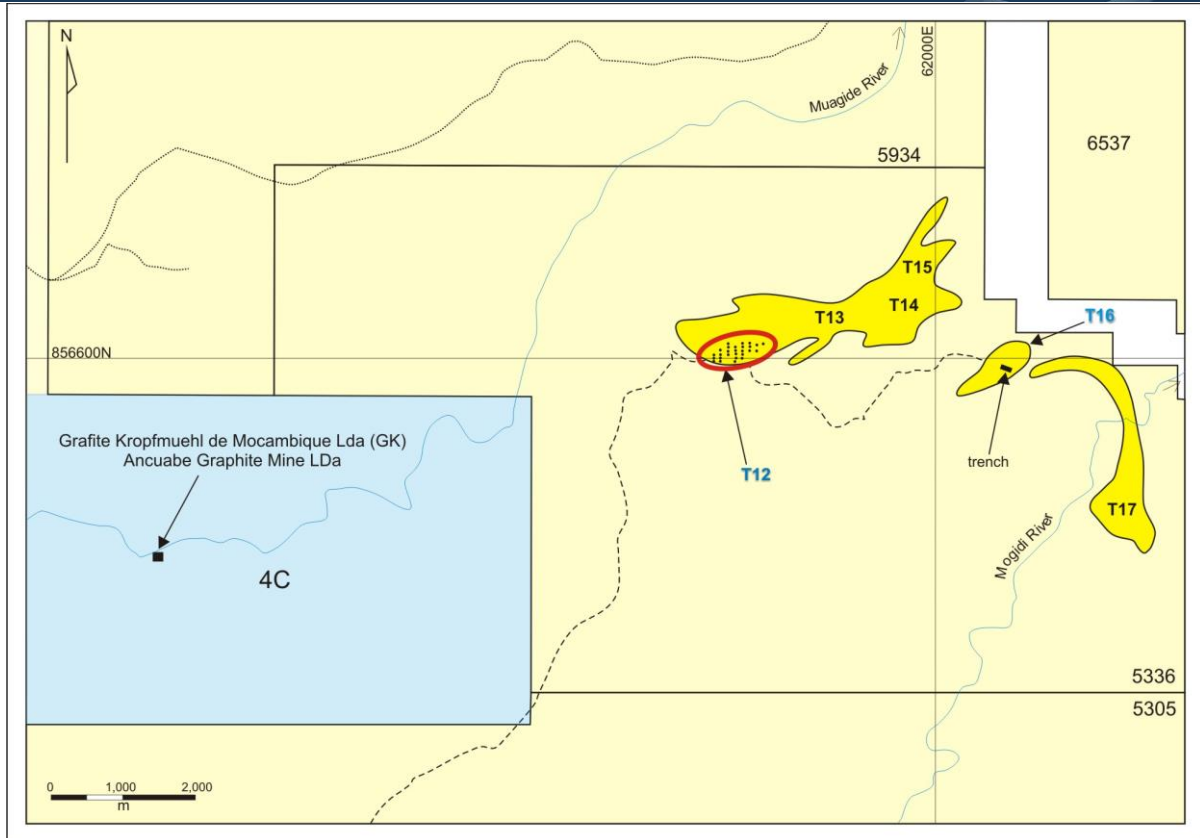

Figure 1: Ancuabe Eastern Graphite Zone - Drillhole Location Plan
Triton is pleased to announce the completion of the initial drilling program at the T12 prospect at the Ancuabe Graphite Project. These drilling results from the results from the T12 prospect at the Ancuabe Graphite Project are considered to be encouraging and of material importance. Ancuabe T12 has been tested by a total of 11 diamond and 18 reverse circulation (RC) drillholes (Figures 1 & 2). Assay results have been received for eight of these drillholes are detailed below and assay results for the remaining holes will be reported as they become available.
Drilling results received to date are considered to be encouraging for the initial exploratory program designed to test the T12 geophysical anomaly. Results have been received for eight holes in the 29 hole program which tested a 700m long section located at the western edge of a 4km long anomaly (Figure 1). A representative from independent resource consultants Jorvick Resources Pty Ltd (Perth) has completed a site visit to Ancuabe to ensure that all sampling, logging and QAQC procedures have been conducted to industry standards and to independently verify the surface expressions of graphite mineralisation.
Graphite mineralisation has been discovered at the T16 target which is located 4km due east from T12. Large flake graphite, similar to that found at T12, is exposed continuously over a horizontal width of 100m over strike length of approximately 800m. T16 is located on the T16-T17 target horizon that is separate from the T12 – T15 trend (Figure1). The implications of this discovery are: